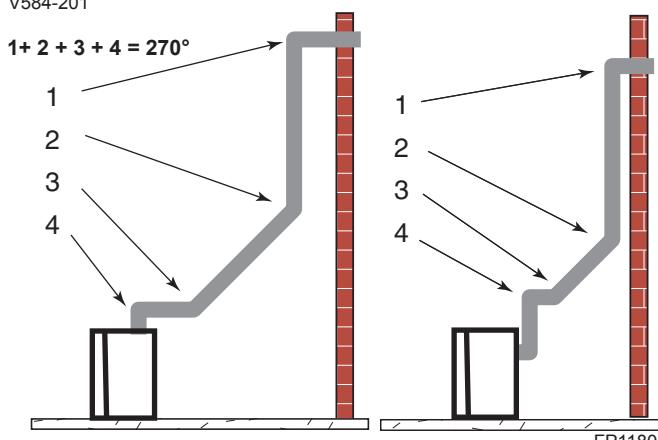

Figure 26 - Maximum Elbow Usage
- The maximum number of 45° elbows permitted per installation is six (6). These elbows can be installed in either the vertical or horizontal run.
- The maximum number of elbow degrees in a system is 270°. *Figure 26*